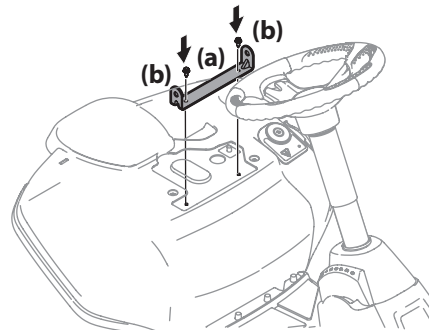

Figure 2-6
3. Align the seat bracket (a) in place over the holes from where the self-tapping bolts (b) were removed, as shown in Figure 2-6.
4. Using a $\frac{1}{4}$ " drive ratchet with a $\frac{3}{8}$ " socket, secure the seat bracket (a) with the self-tapping bolts (b) removed in step 2. See Figure 2-6.